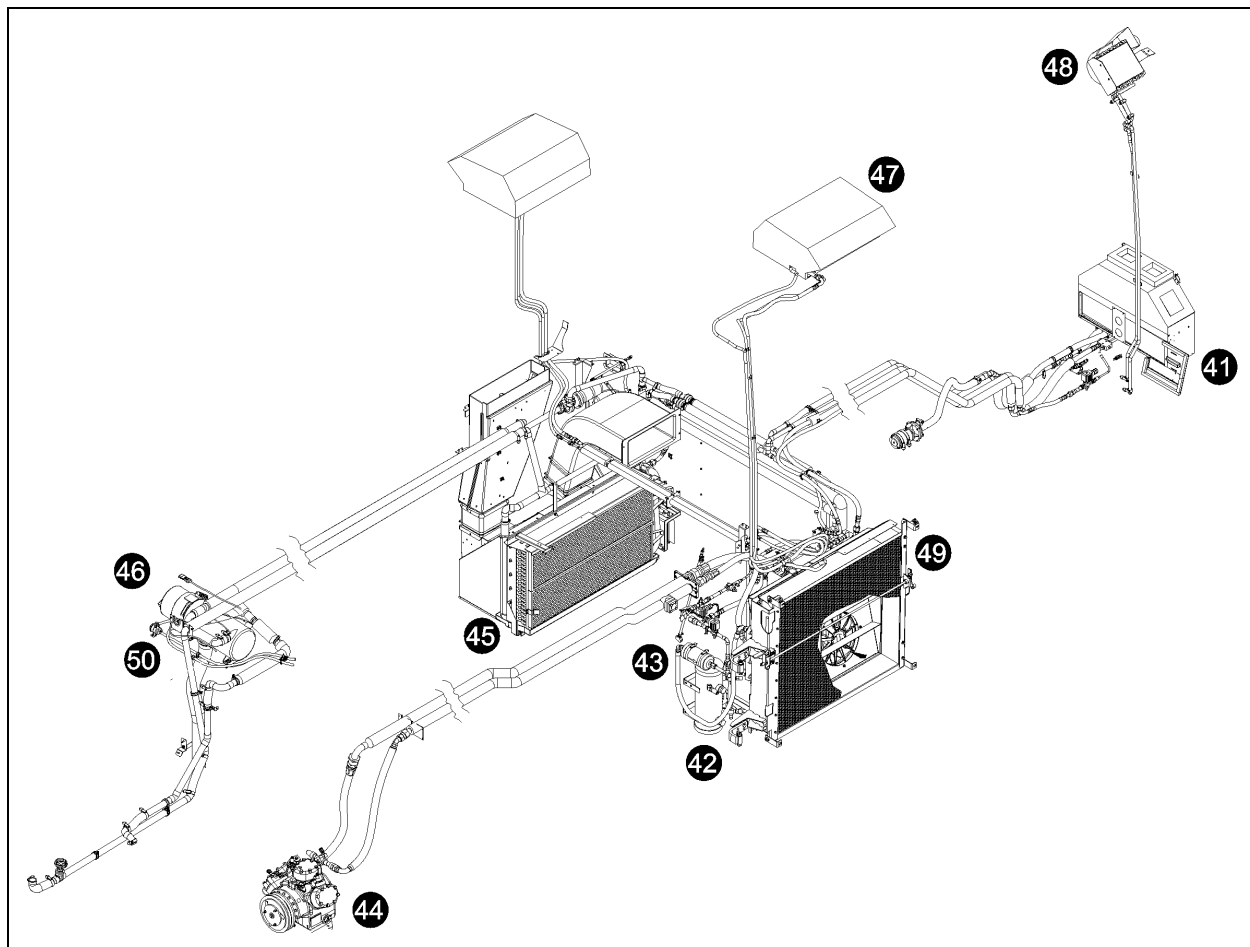

FIGURE 2: LUBRICATION AND SERVICING POINTS – HVAC UNIT
- FIGURE 2: LUBRICATION AND SERVICING POINTS – HVAC UNIT6